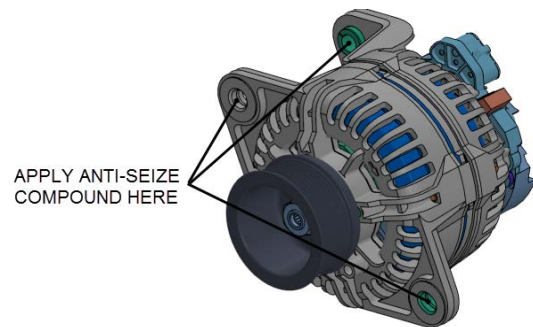
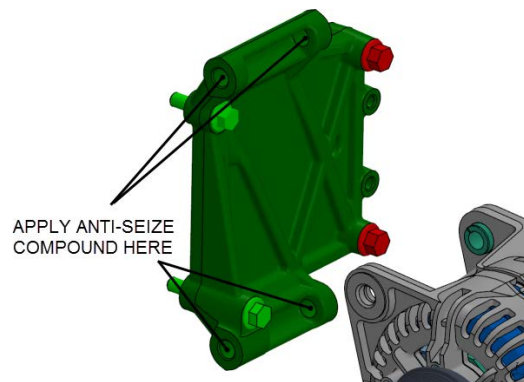

FIGURE 14
FIGURE 15
20. Apply anti-seize compound (Prevost p/n: 680335) inside the alternator mounting ears (FIGURE 14) and inside the sleeves on the alternator support (FIGURE 15).